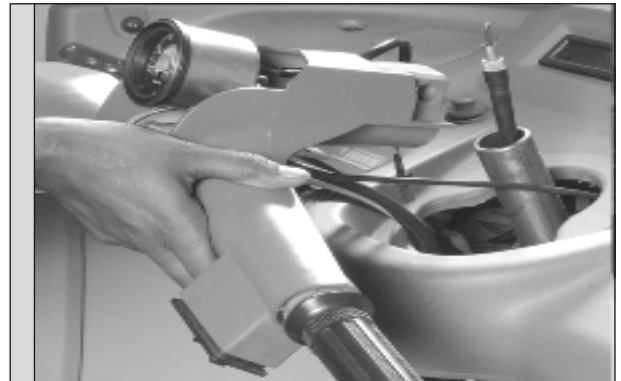

Fig. 2.102
- Separate the handle bar from the steering column (Fig. 2.102)